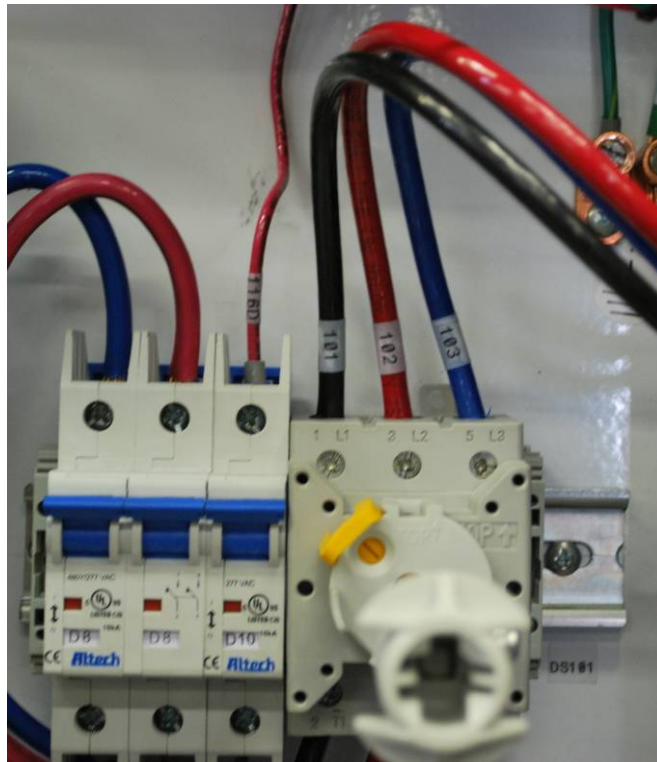

Figure 15 - Main Disconnect Wiring
- c. Reverse any two of the three incoming supply wires at the top of the main disconnect (Figure 15)